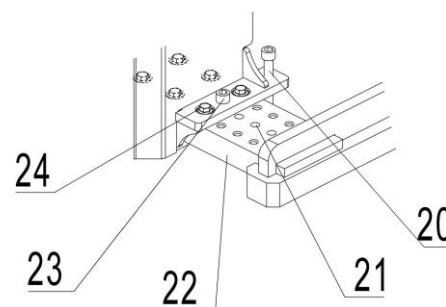

Fig. 16: Adjust the legs
- Tighten the positioning bolt (23) after adjusting the legs.
- When adjusting the legs, please pay attention that the number of positioning holes (21) exposed on each side of the legs should be same. (as shown in Fig. 16, if one side has 3 positioning holes(21), the other side should also be 3).
- Turn clockwise the supporting assembly(20) on both sides of the truck until jacking up the truck.
- Screwed out the positioning bolt (23) and lock bolt (24). **Note: screws (24) are also located inside the battery compartment.**
- Adjust the leg (22) until the corresponding positioning hole (21) is adjusted to the under face of the positioning bolts (23).
When adjusting the legs, please pay attention that the number of positioning holes (21) exposed on each side of the legs should be same. (as shown in Fig. 16, if one side has 3 positioning holes(21), the other side should also be 3).
- Screw the positioning bolt (23) tightly and tighten bolt (24) **outside and inside the battery compartment.**
- Turn anti-clockwise the supporting assembly(20) on both sides of the truck until the supporting assembly can't be turned anymore.